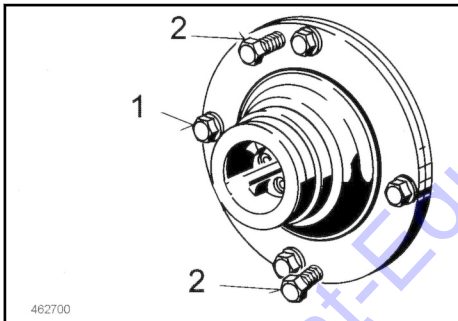

Fig. 227
1. Unscrew fastening screws 1 ↪ Fig. 227.
2. Force the bearing flange off the drum using forcing screws (2).